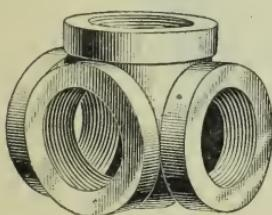
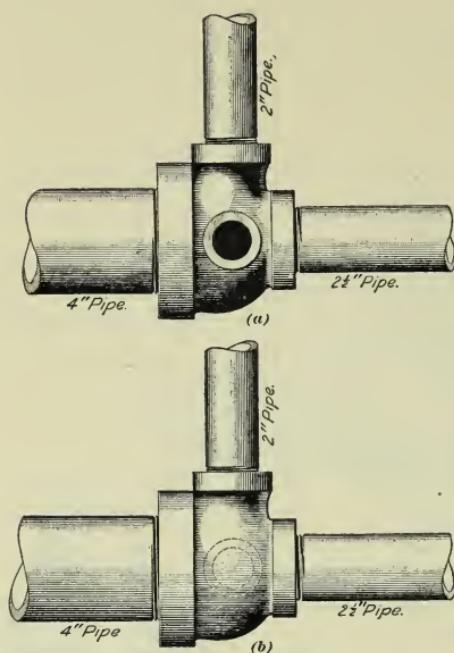

FIG. 15
FIG. 16
**28. A side-outlet tee,** which is shown in Fig. 15, is a fitting that is listed in manufacturers' catalogues, but is very seldom used, as it is difficult to provide for free expansion and contraction of the pipes when it is employed. This fitting is usually made to order, and can be made to suit the conditions. Fittings of this kind are designated by first stating the sizes of the run and then the sizes of the side outlets. If it is desired to have a reducing tee made with side outlets, the fitting should be shown by a sketch made, as in Fig. 16, to indicate the positions of
the side outlets. The fitting shown in Fig. 16 (a) is designated
*as a 4" × 2½" × 2" × 1½" side-outlet tee, opening looking to right.* The one shown in Fig. 16 (b) is called a *4" × 2½" × 2" × 1½" side outlet tee, opening looking to the left.* The dotted circle in Fig. 16 (b) shows that the side outlet is on the left of the fitting, and the manufacturers would make it accordingly. From the foregoing, it will be seen that the terms right and left are applied to the side outlet in accordance with the side they are on when looking at the fitting in